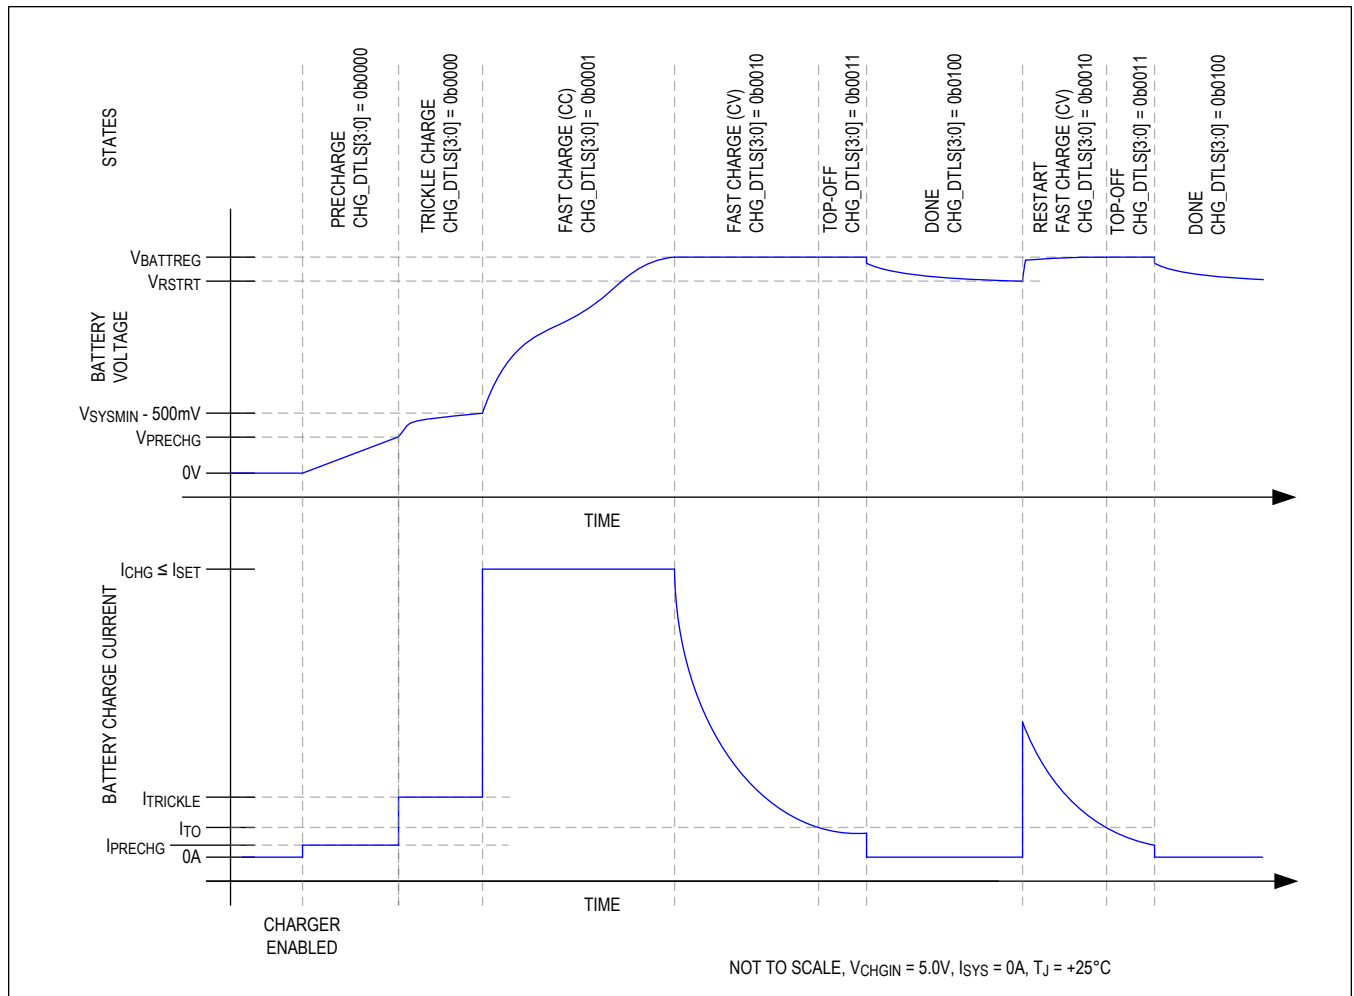
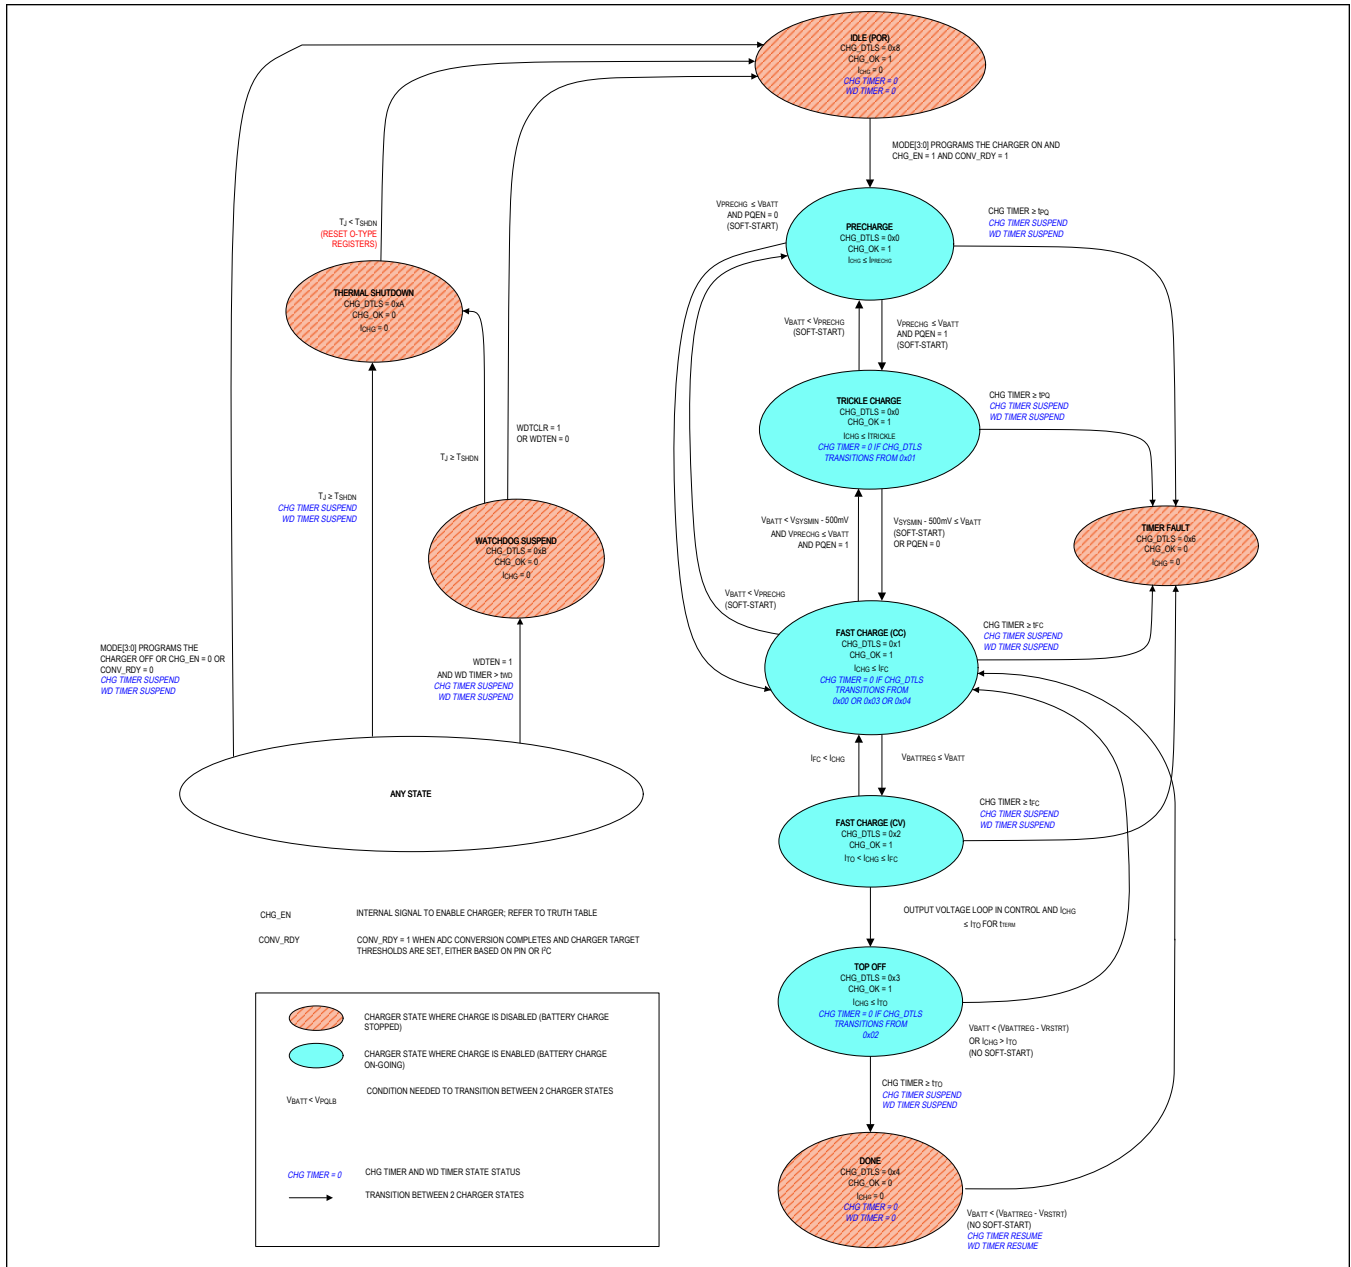

Figure 1. Li Battery Charge Profile
Figure 2. Charger State Diagram
The MAX77960B/MAX77961B utilize several charging states to safely and quickly charge batteries as shown in Figure 1 and Figure 2. Figure 1 shows an exaggerated view of a Li+/Li-Poly battery progressing through the following charge states when there is no system load and the die and battery are close to room temperature: Prequalification → Fast-charge → Top-off → Done.
From any state shown in Figure 2 except thermal shutdown, the no input power or charger disabled state is entered whenever the charger is programmed to be off or the charger input CHGIN is invalid. After being in this state for t_{SCIDG} , CHG_DTLS is set to 0x08 and CHG_OK is set to 1. A CHG_I interrupt is generated if CHG_OK was 0 previously.
As shown in Figure 2, the charger enters the precharge state when the battery voltage is less than V_{PRECHG} . After being in this state for t_{SCIDG} , a CHG_I interrupt is generated if CHG_OK was 0 previously, CHG_OK is set to 1 and CHG_DTLS is set to 0x00. In the precharge state, charge current into the battery is I_{PRECHG} .
As shown in Figure 2, the charger state machine is in trickle charge state when $V_{PRECHG} < V_{BATT} < V_{SYSTEMIN} - 500mV$. After being in this state for t_{SCIDG} , a CHG_I interrupt is generated if CHG_OK was 0 previously, CHG_OK is set to 1 and CHG_DTLS = 0x00.
As shown in Figure 2, the charger enters the fast-charge constant current (CC) state when $V_{SYSTEMIN} - 500mV$ (typ) < $V_{BATT} < V_{BATTREG}$. After being in the fast-charge CC state for t_{SCIDG} , a CHG_I interrupt is generated if CHG_OK was 0 previously, CHG_OK is set to 1 and CHG_DTLS = 0x01.
As shown in Figure 2, the charger enters the fast-charge constant voltage (CV) state when the battery voltage rises to V_{BATTREG} from the fast-charge CC state. After being in the fast-charge CV state for t_{SCIDG}, a CHG_I interrupt is generated if CHG_OK was 0 previously, CHG_OK is set to 1 and CHG_DTLS = 0x02.
In the fast-charge CV state, the battery charger maintains V_{BATTREG} across the battery and the charge current is less than or equal to I_{FC}. As shown in Figure 1, charger current decreases exponentially in this state as the battery becomes fully charged.
As shown in Figure 2, the top-off state can only be entered from the fast-charge CV state when the charger current decreases below I_{TO} for t_{TERM}. After being in the top-off state for t_{SCIDG}, a CHG_I interrupt is generated if CHG_OK was 0 previously, CHG_OK is set to 1, and CHG_DTLS = 0x03. In the top-off state the battery charger maintains V_{BATTREG} across the battery and typically the charge current is less than or equal to I_{TO}.
As shown in Figure 2, the battery charger enters its done state after the charger has been in the top-off state for t_{TO} . After being in this state for t_{SCIDG} , a CHG_I interrupt is generated only if CHG_OK was 0 previously, CHG_OK is set to 0 and CHG_DTLS = 0x04.
The battery charger provides both a charge timer and a watchdog timer to ensure safe charging. As shown in Figure 2, the charge timer prevents the battery from charging indefinitely. The time that the charger is allowed to remain in its prequalification states is t_{PQ} . The time that the charger is allowed to remain in the fast-charge CC and CV states is t_{FC} , which is programmable with FCHGTIME. Finally the time that the charger is in the top-off state is t_{TO} which is programmable with TO_TIME. Upon entering the timer fault state a CHG_I interrupt is generated without a delay, CHG_OK is cleared and CHG_DTLS = 0x06.
The charger is off in the timer fault state. The charger can exit the timer fault state when the charger is programmed to be off then on again through the MODE bits or when DISQBAT pin is toggled from L-H-L. Alternatively, the charger input can be removed and reinserted to exit the timer fault state (see the ANY STATE bubble in Figure 2).
The battery charger provides both a charge timer and a watchdog timer to ensure safe charging. As shown in Figure 2, the watchdog timer protects the battery from charging indefinitely in the event that the host hangs or otherwise cannot communicate correctly. The watchdog timer is disabled by default with WDTEN = 0. Enable the feature by setting WDTEN = 1. With watchdog timer enabled, the host controller must reset the watchdog timer within the timer period (t_{WD}) in order for the charger to operate properly. Reset the watchdog timer by programming WDTCLR = 0x01.
As shown in Figure 2, the state machine enters the thermal shutdown state when the junction temperature (T_J) exceeds the device's thermal shutdown threshold (T_{SHDN}). When T_J is close to T_{SHDN} , the charger would have already folded back the input current to 0A, (see the Thermal Foldback section for more details), so the charger and the DC-DC are effectively off. Upon entering this state, CHG_I interrupt is generated if CHG_OK was 1 previously, CHG_OK is cleared, and CHG_DTLS = 0x0A.